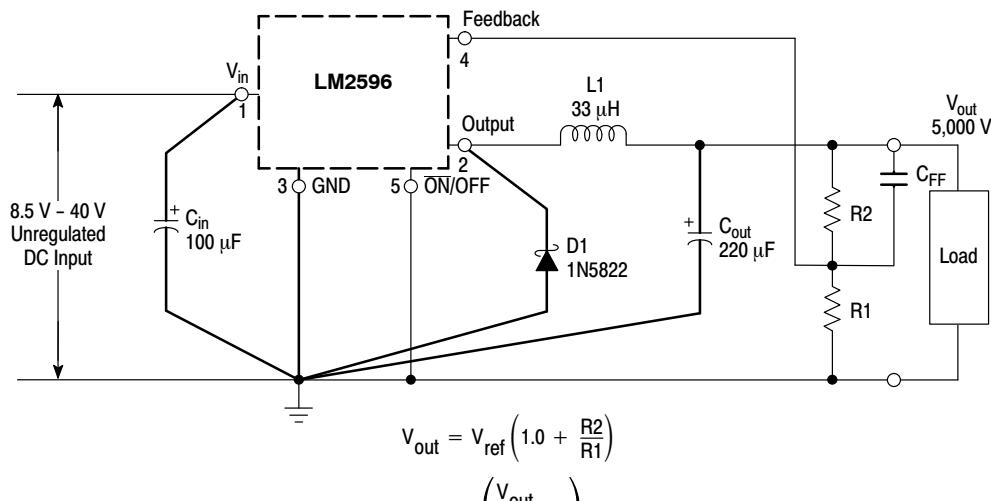

Figure 15. Typical Test Circuit
LM2596 (Note 1, Test Circuit Figure 15)
- External components such as the catch diode, inductor, input and output capacitors can affect switching regulator system performance. When the LM2596 is used as shown in the Figure 15 test circuit, system performance will be as shown in system parameters section.
## TYPICAL PERFORMANCE CHARACTERISTICS (Circuit of Figure 15)
**TYPICAL PERFORMANCE CHARACTERISTICS** (Circuit of Figure 15)
As in any switching regulator, the layout of the printed circuit board is very important. Rapidly switching currents associated with wiring inductance, stray capacitance and parasitic inductance of the printed circuit board traces can generate voltage transients which can generate electromagnetic interferences (EMI) and affect the desired operation. As indicated in the Figure 15, to minimize inductance and ground loops, the length of the leads indicated by heavy lines should be kept as short as possible.